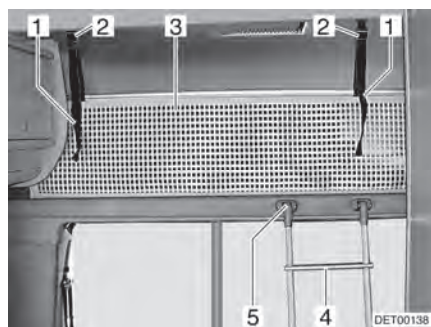

Fig. 68 Overcab bed
Always use the access ladder (Fig. 68,4) provided as standard to access the overcab bed.
- Attaching:** ■ Attach the ladder with the rails to the holder (Fig. 68,5) on the alcove panel.
- Safety net** The safety net (Fig. 68,3) is stored as standard between the mattress and slatted frame. Only use the safety net if persons are already in the alcove.
- Setting up:** ■ Let the retaining straps (Fig. 68,1) snap into the holders (Fig. 68,2) on the ceiling.